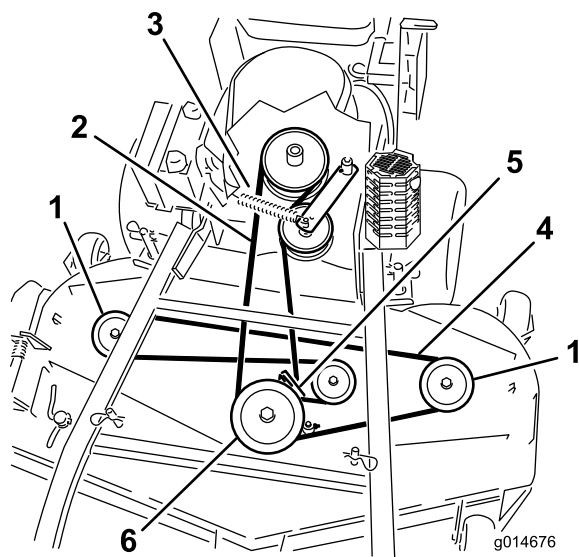
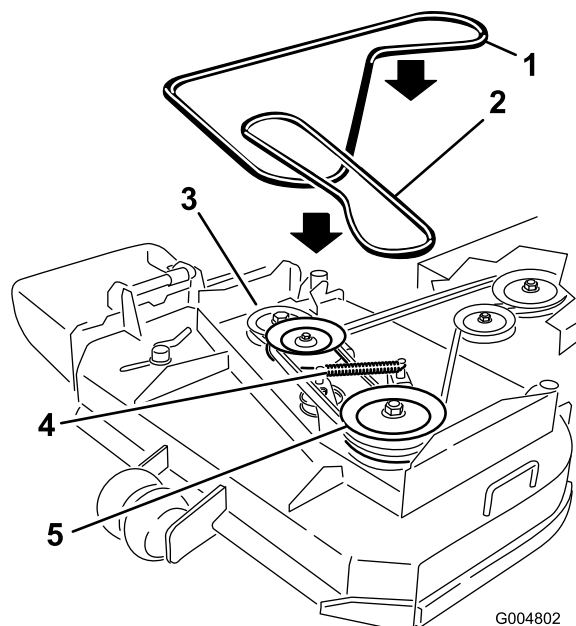

Figure 50
Figure 51
6. Disconnect the idler arm spring to relieve tension on the idler arm and idler pulley, then remove the worn mower belt (Figure 50 or Figure 51).
7. Install the new mower belt around the 2 outside spindle pulleys, the idler pulley, and in the lower groove of the double spindle pulley (Figure 50 or Figure 51).
8. Connect the idler arm spring (Figure 50 or Figure 51).
10. Adjust the belt guide an 3 mm (1/8 inch) from the belt (Figure 50 or Figure 51).